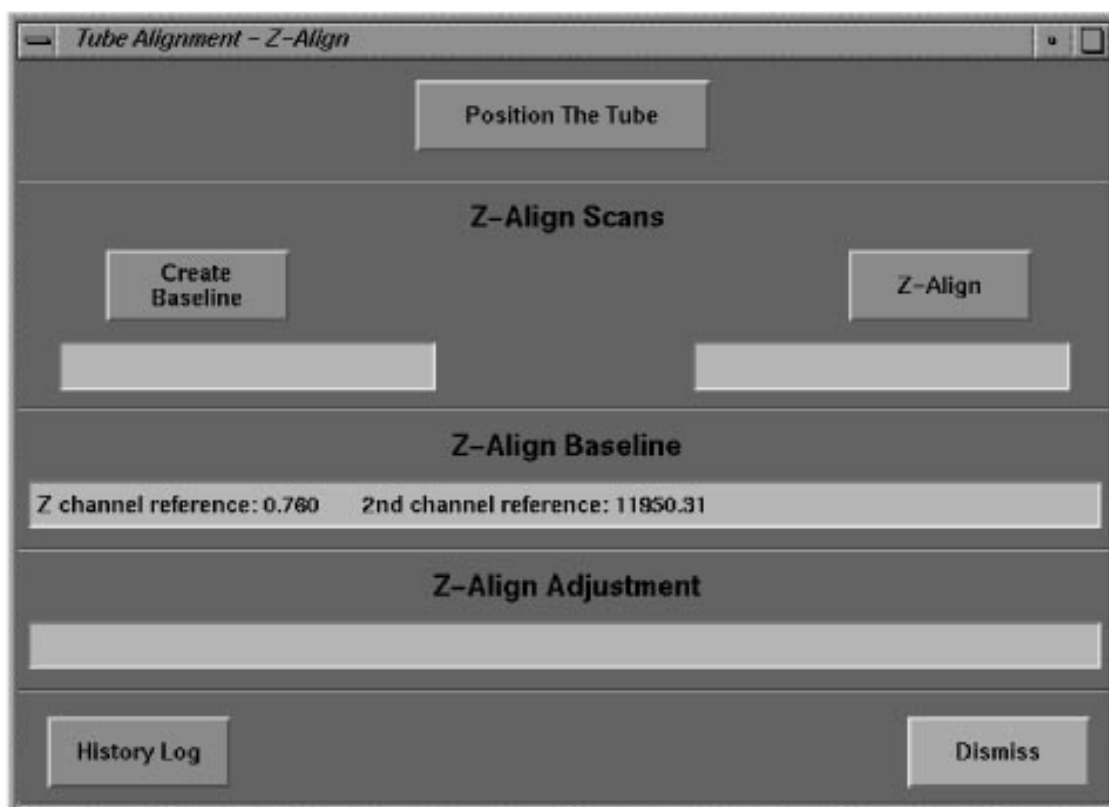

Figure 3-14 ADVANCED Z-ALIGN SCREEN
- 4.) Refer to Figure 3-14. Select Z-ALIGN.